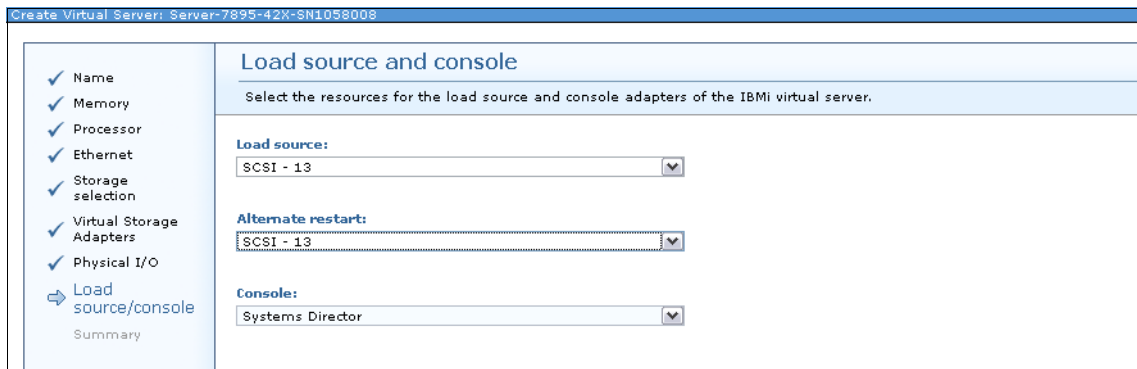

Figure 8-83 IBM i virtual server load source and console settings
- In the Load Source and Console settings window, choose the virtual SCSI as the Load Source, as shown in Figure 8-83. If you are planning to perform an operating system installation, set the type of virtual adapter that is planned in the Alternate restart resource list. This can be vSCSI for optical or vFC for tape. Click **Next**.